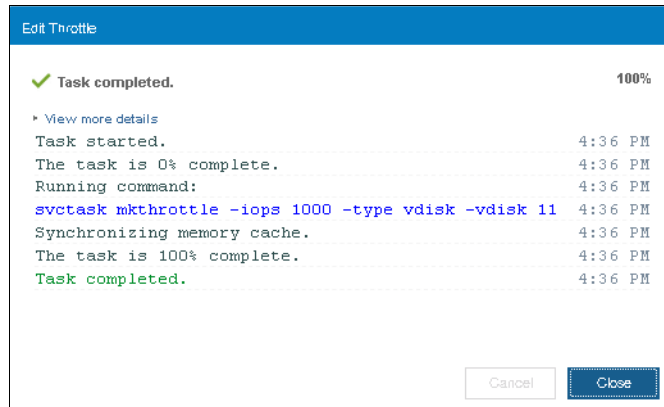

Figure 6-67 Volume throttle completed
3. Click **Create** and you will get a task completed window as shown in Figure 6-67 on page 320